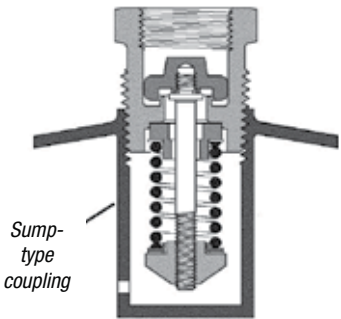

Fig. 1
- Do not use the PV435A for this type of installation since the proper function of the relief valve could be restricted (see Fig. 1 for sump-type coupling)